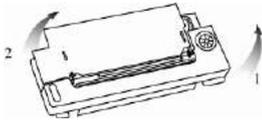

Figure 2-4. Ribbon Cassette – Unloading
(2) Hold the left end of the ribbon cassette with your left hand. Hold right end in right hand. Right thumb is on top and forefinger below (Figure 2-4). Lift the right end of the cassette with the right forefinger. Then lift the left end. The ribbon cassette will come off easily. Caution – Never lift left